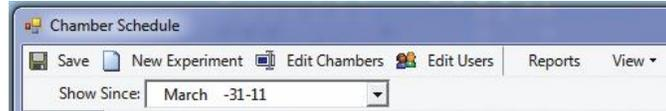
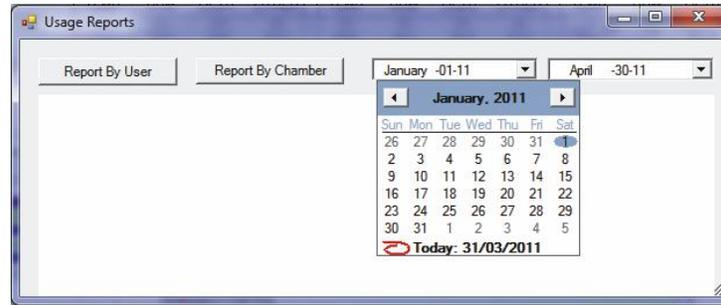

Figure 4-2 Chamber Scheduler Toolbar
Figure 4-9 Usage Reports
1. On the **Chamber Schedule** toolbar (Figure 4-2), click **Reports**. The **Usage Reports** dialog box appears (Figure 4-9).